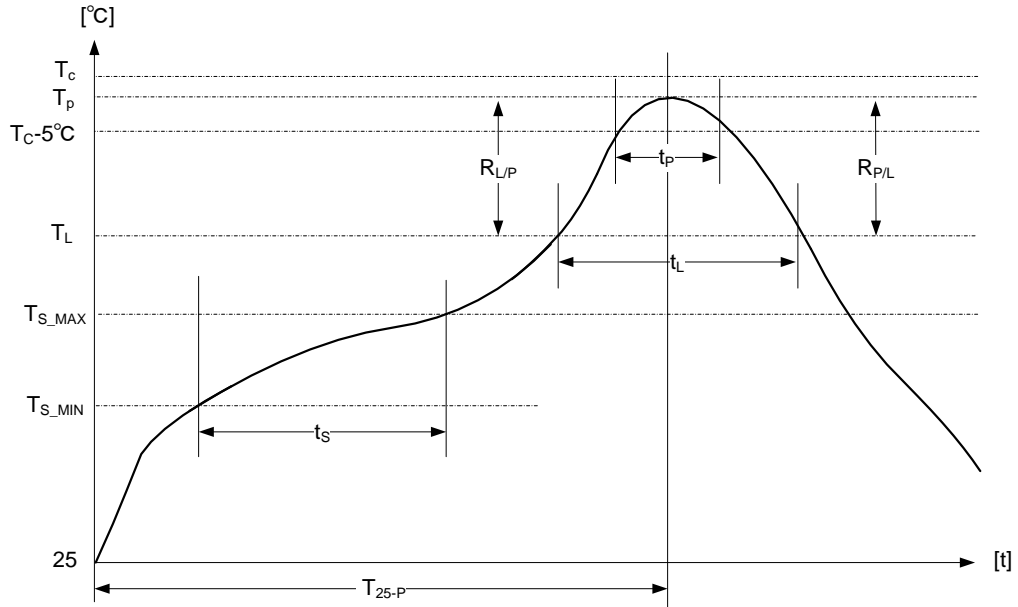

Figure 13.1 Condition of Reflow (Based on IPC/JEDEC J-SED-020D)
- Please reflow according to Figure 13.1 and Table 13.1.